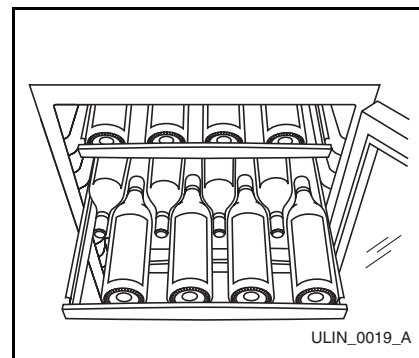

Figure 8
1. The wine racks should be stocked beginning with the lowest rack, at the back, and working forward. Stagger the bottles as shown (Figure 8).